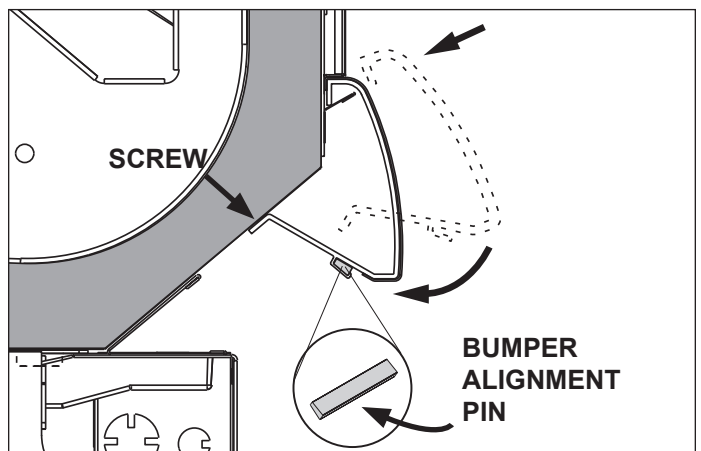

Fig. 6 Streamlyne bumper alignment pin
5. Place the hook of the Streamlyne bumper on the lip of the master bumper bracket and rotate the bumper down while pushing it in (Fig. 6). When the top edge of the bumper has slipped under the color band, be certain that it is pushed in as far as it will go.
6. Attach the bumper to the tank with the screws provided (Fig. 6). Insert the bumper alignment pin into the underside of the bumper to help align it to the bumper on the next case.